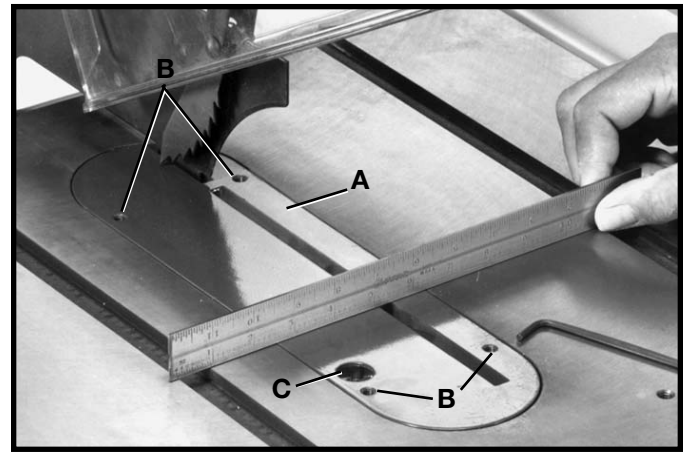

Fig. 105
Place a straight edge across the table at both ends of the table insert as shown in Fig. 105. The table insert (A) should always be level with the table. If an adjustment is necessary, turn the adjusting screws (B), as needed. Four adjusting screws (B) are supplied in the table insert. The table insert is equipped with a convenient finger hole (C) for easy removal.